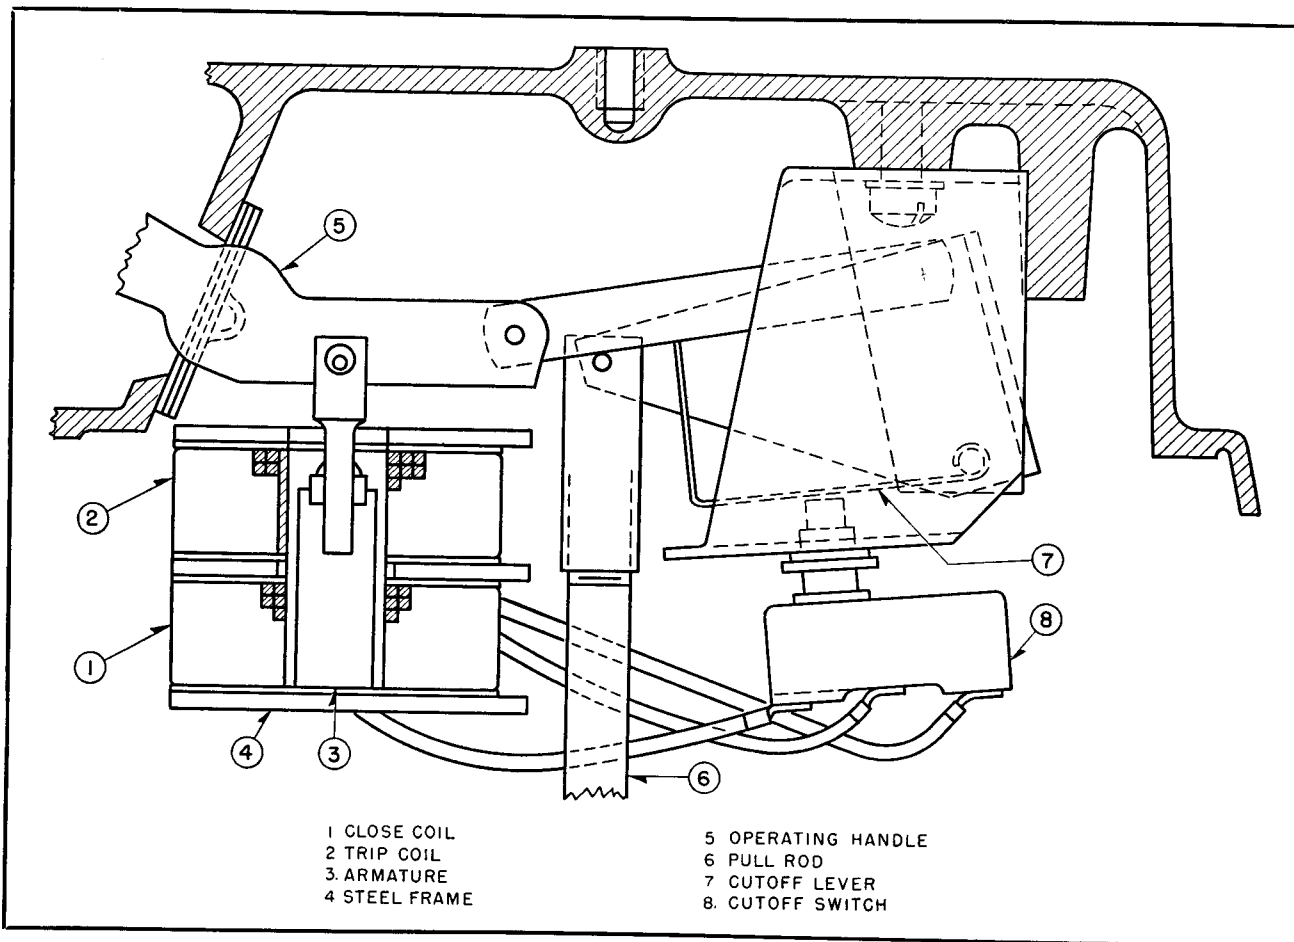

FIG. 2. Operating Mechanism for Type CSO Oil Switch
Operating Principle. The operation of the solenoid operated Type CSO Capacitor Switch is dependent upon a closing and tripping solenoid and a cutoff switch. (See Fig. 2). The solenoid consists of a close coil (1), a trip coil (2), a steel armature (3), and a steel frame (4).